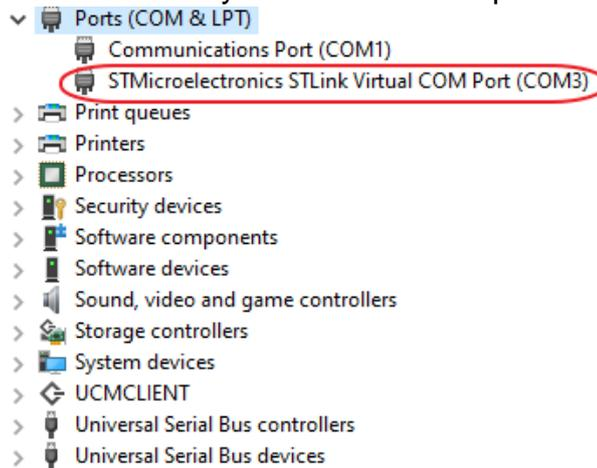

Figure 7: COM information
Step2: Install the driver successfully and see the com port in figure 7: